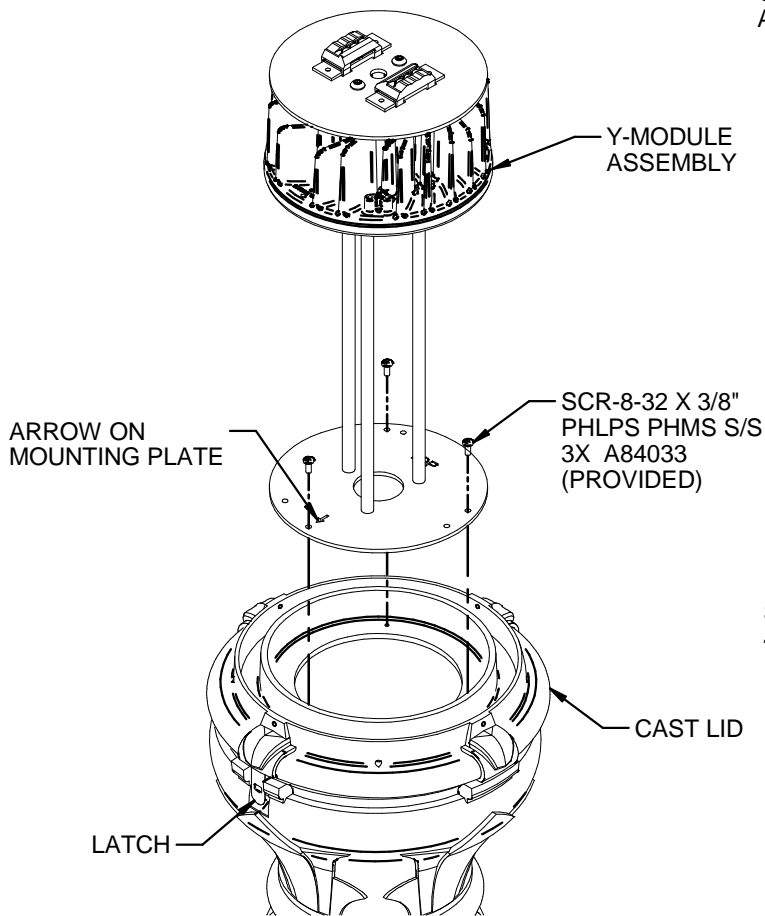

FIG. 3-1
1. INSTALL Y-MODULE TO CAST LID **WITH** **ARROW ON MOUNTING PLATE POINTING TO LATCH ON CAST LID** USING PROVIDED 8-32 X 3/8" SCREWS. (FIG. 3-1) **ARROW DENOTE STREET SIDE.**